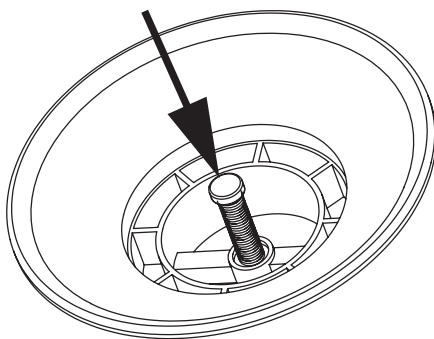

Figure 1. Inflate/Deflate of 2-way Military Valves
Your Advanced Elements kayak uses the following valve. The 2-way military valve has the function and durability of other military type valves and is compatible with most standard pumps. Figure 1 below details how to operate the valves.
2. Check to be sure all 3 valve plungers are in the UP or Inflate position. (See Figure 1). Using the adaptor located in your repair kit, inflate Main Chamber 1 until firm to the touch (2.25 psi **MAX**).
1. Remove the caps from all 3 chambers, push valve stems inward and rotate to the deflate position. (See Figure 1).